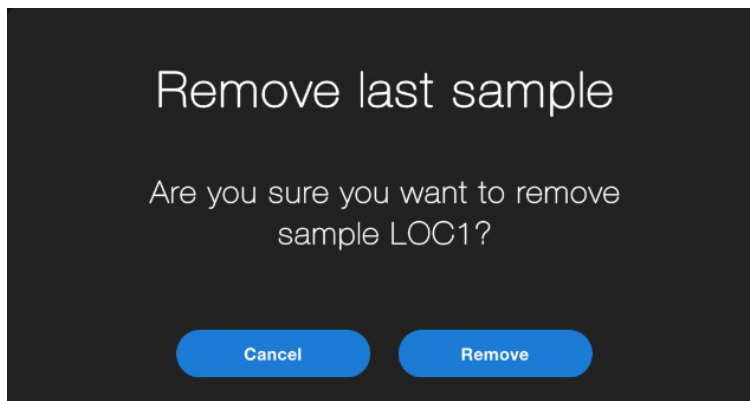

Figure 7.11 Removing samples from plate
- If an incorrect sample is entered, click "Remove Last Sample" to remove or exclude that specific sample. This will bring up the screen in Figure 7.11